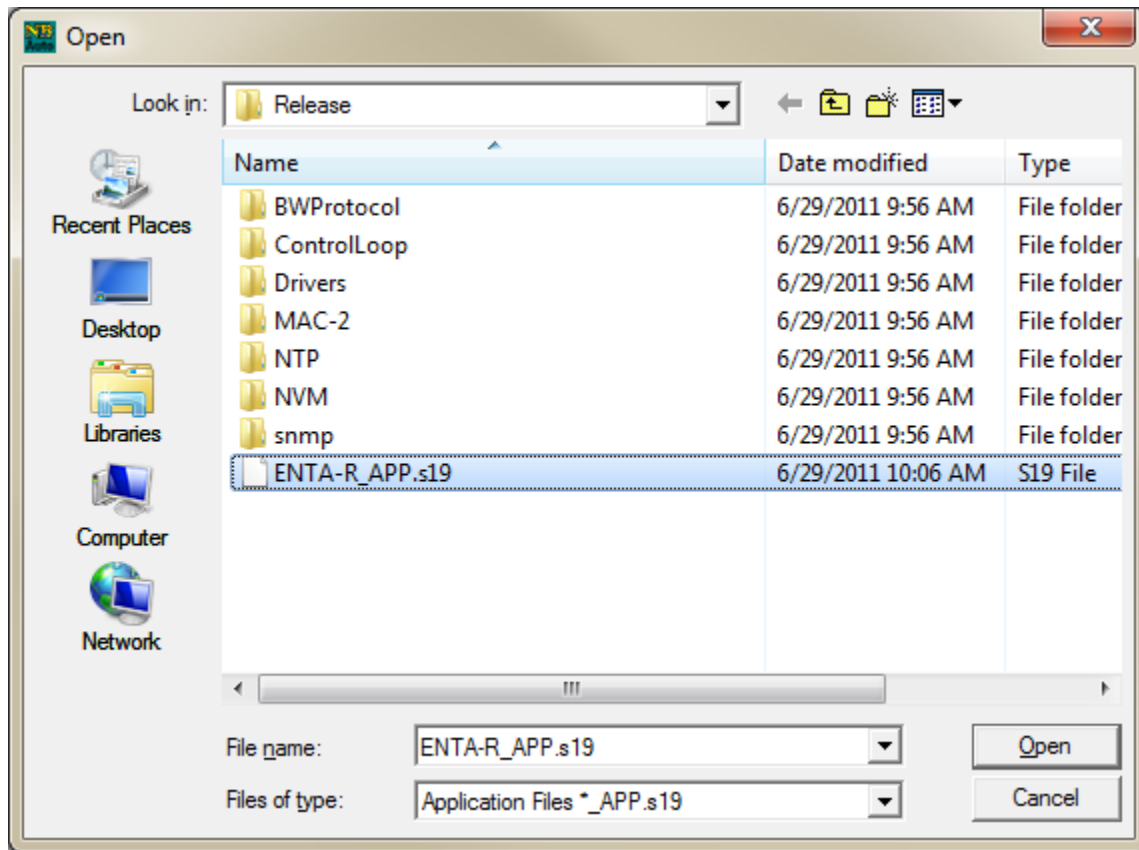

Figure 21. Open Screen
3. Enter the path name to the new released file. If the user does not know the path name, press the Browse button and Figure 21 will be displayed. Locate and click on the file and click the Open button. The file will be in the form '925000062A ENTA-R2v1.00Build 1129_APP.s19'. The File Name field will be completed for you.